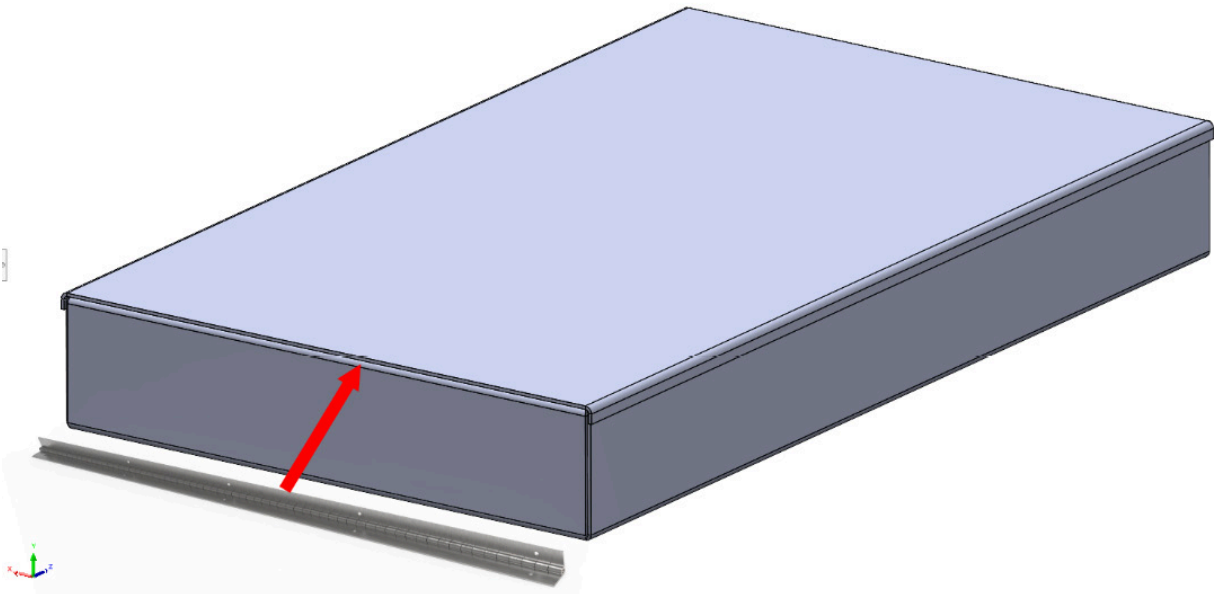

Figure 13.16 – An example piano hinge for joining the lid to the base
7. Press **OK** to create the three **Edge Flanges**. Note that we haven't added a flange to the rear edge. This is because in real life, the lid could be attached to the base using a long piano hinge (*Figure 13.16*):